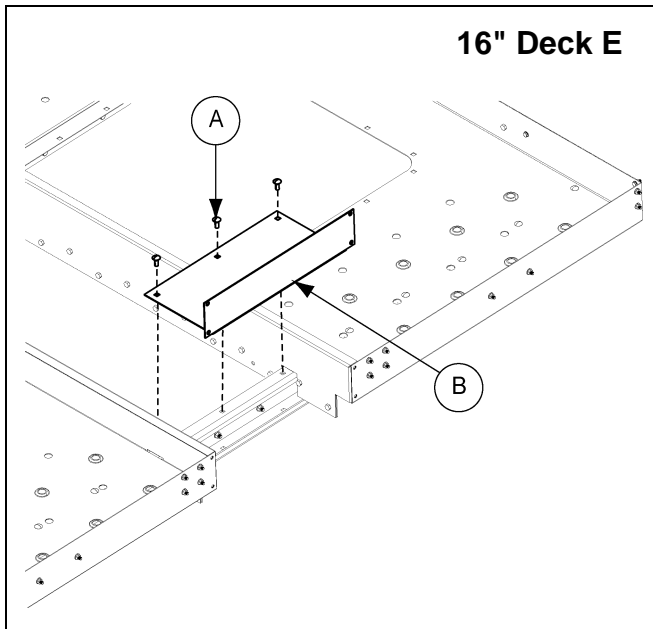

Figure 8K Deck Adapter Bracket to Channel
1. Using three (3) 3/8" x 1" carriage bolts (S-3585) and 3/8" flange nuts (S-10028), install the adapter bracket to cross deck support channel at the up-leg end of the platform between Deck A and side toe board and between Deck C and side toe boards. (See Figure 8K.)